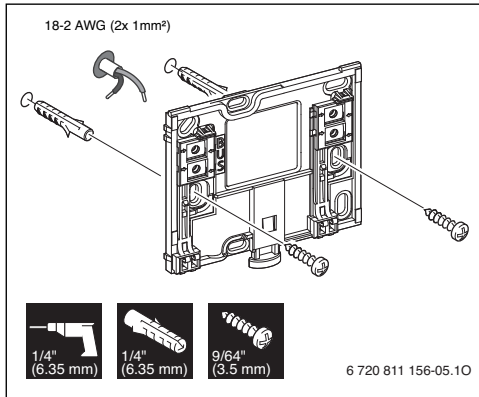

Fig. 6 Mounting the base
- ▶ Install the base on a wall. (→ Fig. 6).